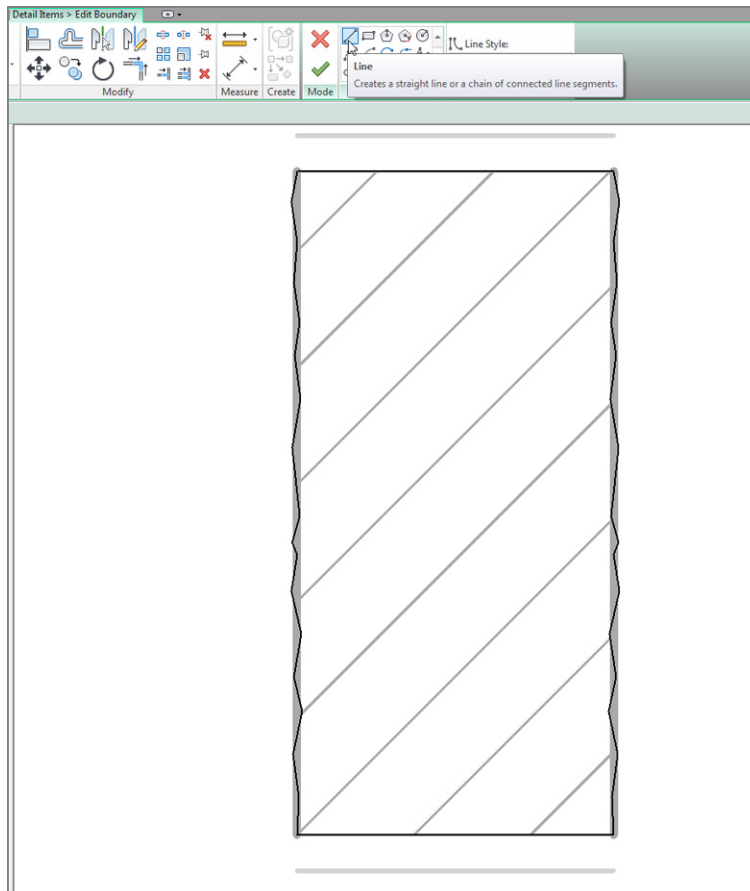

FIGURE 12.19: Adding a texture to the brick family
12. On the Draw panel, select the Line button, as shown in Figure 12.19.
14. Draw a series of jagged lines on the right and left of the brick, as shown in Figure 12.19.